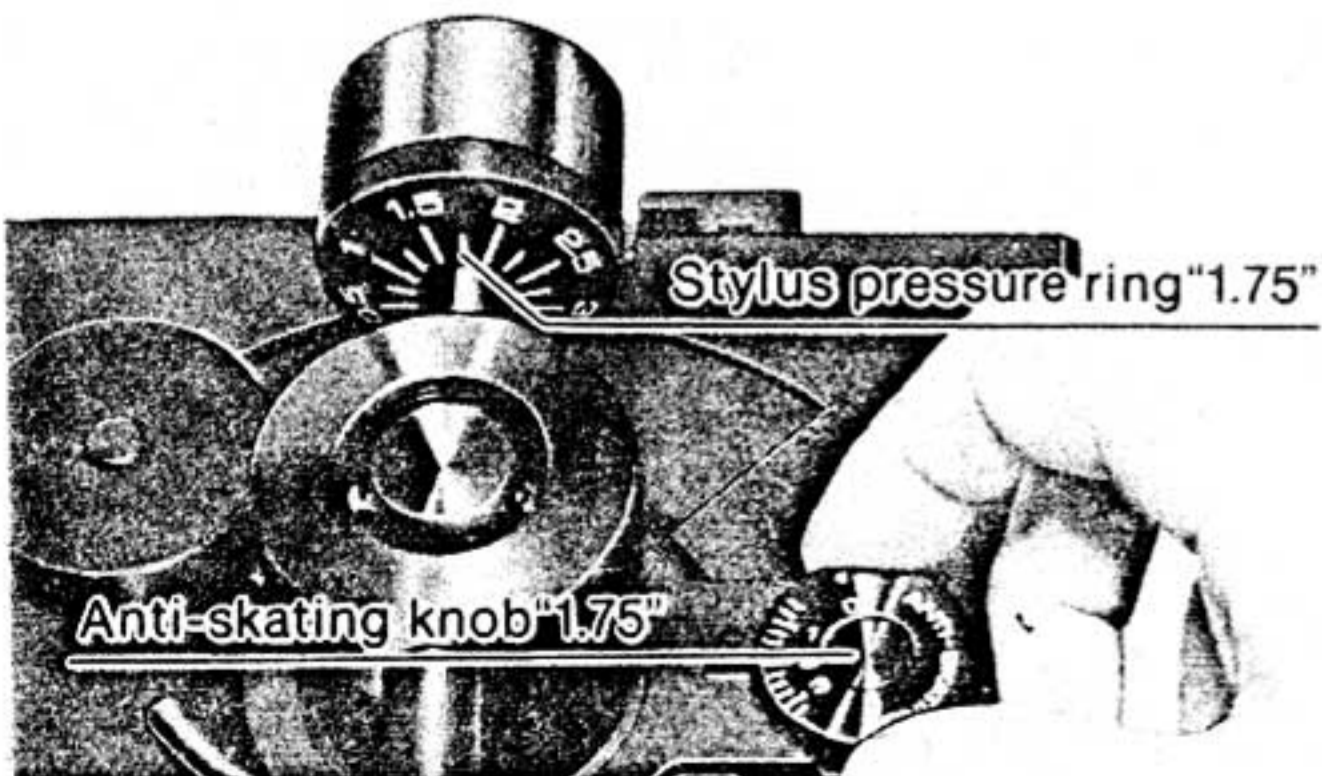

Fig. 6
2. Anti-skating adjustment (Fig. 6)